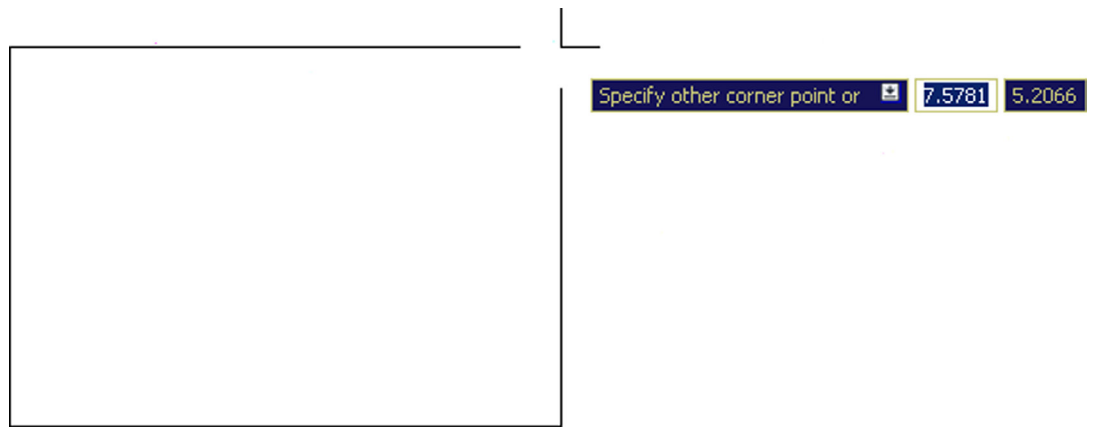

FIGURE 2.7
To use Dynamic Input to draw a rectangle (5"×3" in this example), make sure DYN is on, begin the command, and click anywhere to start the rectangle. You see fields in which to enter the values for the height and width (Figure 2.7). As before, enter a new value in the first text field (5) and Tab over to the next field, entering the other value (3). As you press Enter, the 5"×3" rectangle is created. Note of course that the first value is the *width* and the second value is the *height*.